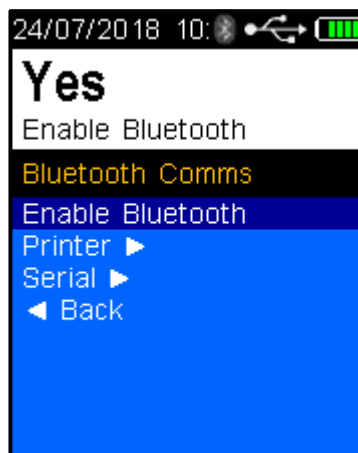

Figure 81 - Enable Bluetooth
- Select the test key to Enable Bluetooth (Refer to Figure 81).